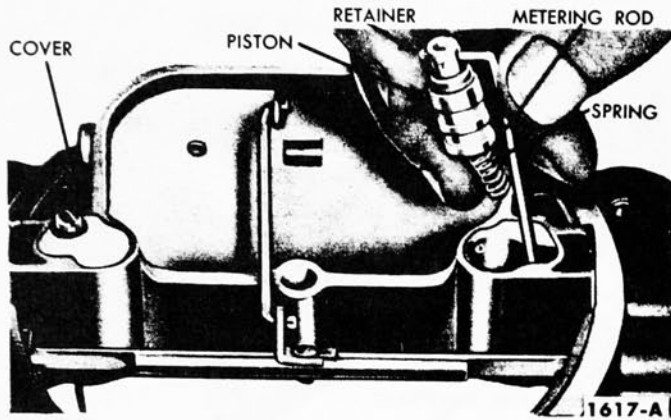

FIG. 45—Vacuummeter Installation
26. Place the springs in the Vacuum meter pistons, then place the pistons and metering rods in their chambers (Fig. 45). Install the Vacuum covers. **Do not force the metering rods into position.**